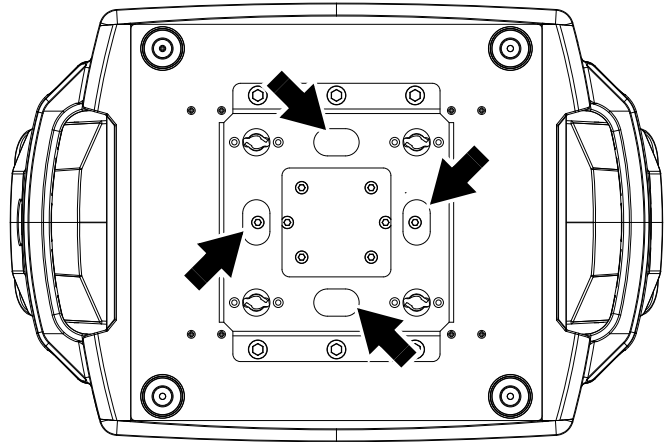

Figure 6: Safety cable attachment points
5. See Figure 6. Install a safety cable that is approved as a safety attachment for the weight of the fixture by looping it through one of the four safety cable attachment points (arrowed) in the bottom of the base and around a secure anchoring point so that the safety cable will catch the fixture if a primary attachment fails. Remove as much slack as possible from the safety cable (by looping it more than once around the truss bar, for example).